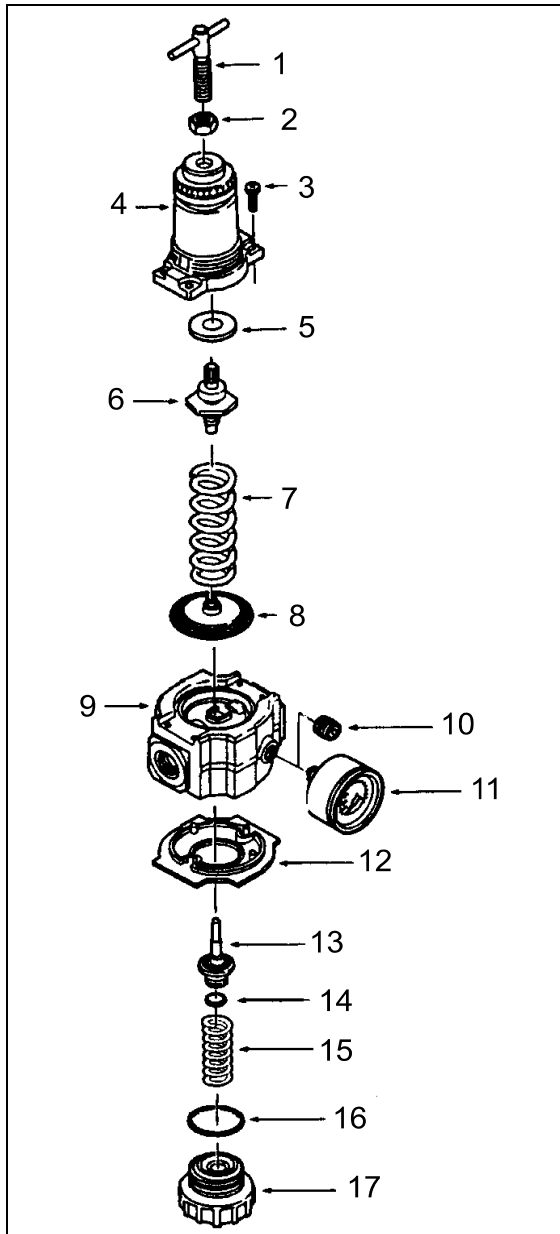

FIGURE 13: REGULATING VALVE 16035
1. Before turning on system air pressure, release jam nut (2, Fig. 13) then turn regulator adjustment counterclockwise until all load is removed from the regulating spring.
5. Tighten jam nut (2, Fig. 13) to lock pressure setting.
1. Shut off inlet pressure and reduce pressure in inlet and outlet lines to zero. Turn regulator adjustment (1, Fig. 13) counterclockwise until all load is removed from regulating spring. Regulator can be disassembled without removal from air line.
1. Lubricate O-ring (14 and 16, Fig. 13), valve stem (13, Fig. 13), tip of adjusting screw (1, Fig. 13), and the outer circumference and both sides of the thrust washer (9, Fig. 13) with a light coat of good quality O-ring grease.